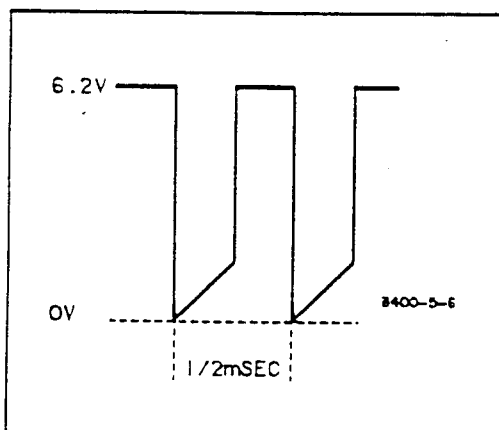

Figure 5-7. Input to Demodulator
- ① Set the 3400A to the 1V range. Apply 1V 400Hz ac signal to the input terminals. Measure the signal at junction of C413 and 415. The reading should be between 240mV and 280mV RMS.
- ② Measure the signal between TP2 and TP1 on the A6 assembly. The signal should look like the one in Figure 5-7.
- ③ Troubleshoot and repair oscillator circuitry.
- ④ Turn the 3400A off and place the A6 board on an extender board (-hp- 5060-6038). Unsolder and lift one end of R616 from the board (the dc feedback is now disconnected). Set the instrument to the 1V range and apply a 1V, 400Hz RMS ac signal to the input terminals. Using a Digital Multimeter (like the 3468A/B), measure the voltage between TP3 and TP1 on the A6 assembly. The voltage should be approximately 2mV to 2.5mV ac.
- ⑤ Check for a defective TC401. TC401 may also be disconnected from the output of the video amplifier via capacitors C413 and C415.
- ⑥ Turn the instrument off and replace and resolder R616 on the A6 board. Make sure the 3400A is still on the 1V range and the 1V, 400Hz signal is still applied. Turn the instrument on and measure the voltage between TP4 and TP1 on the A6 board. The voltage should approximately be -4V dc.
- ⑦ If the voltage is positive, check for a shorted CR603. If the voltage is negative but other than -4V, U602 or TC401 may be defective.
- ⑧ Check the voltage between TP5 and TP1 and make sure it is -19V.
- ⑨ Troubleshoot the filter circuitry consisting of R617 through R619, and C606 through C608.
- ⑩ Check the voltage between TP6 and TP1 and make sure it is approximately -1V.